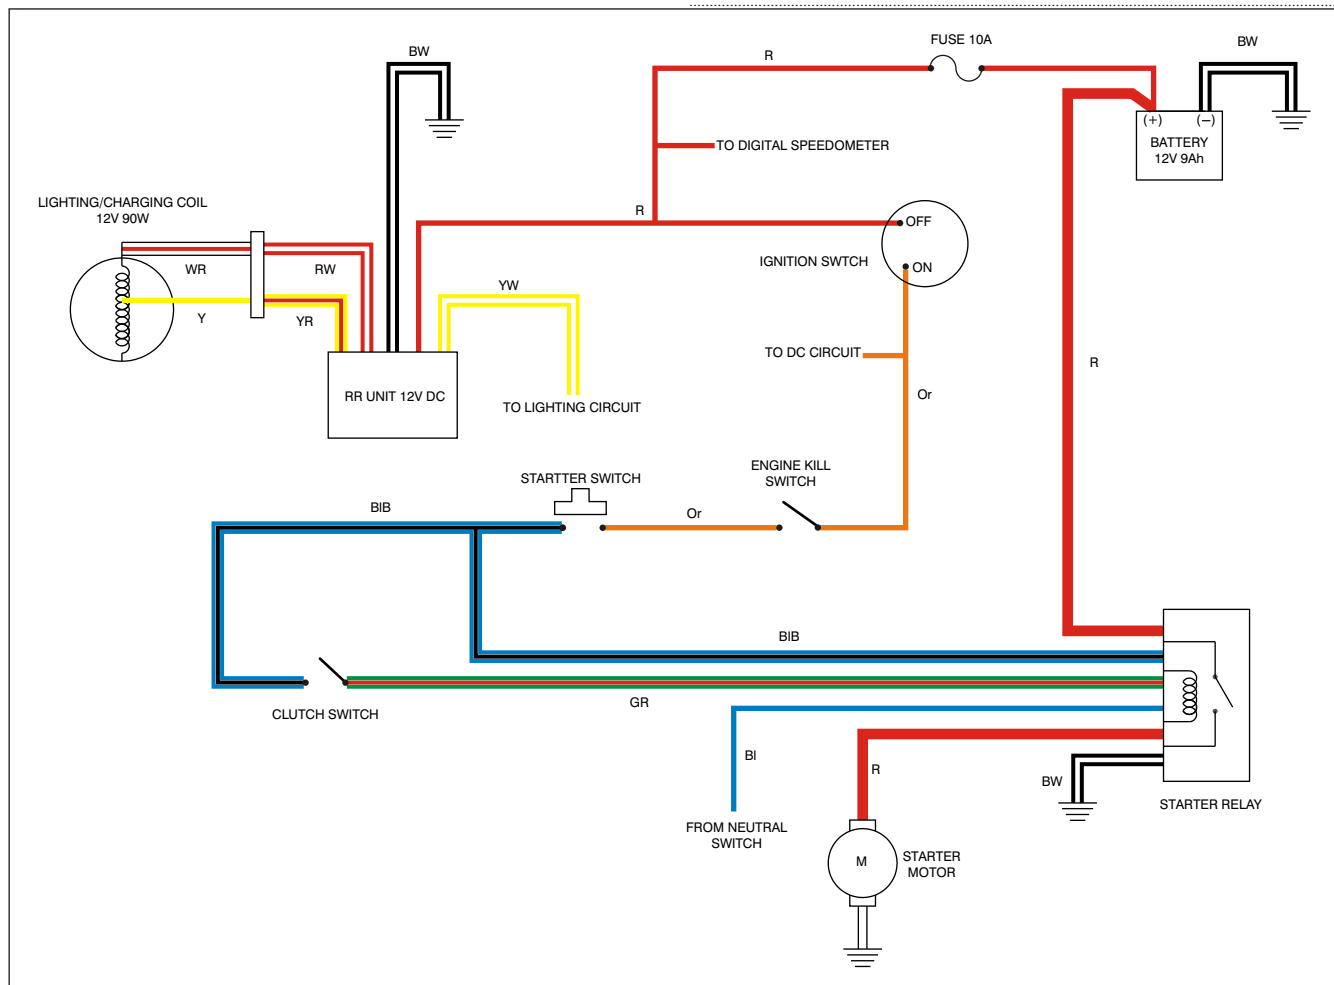

Fig. 5.34
- In TVS Apache RTR, while pressing the starter switch with the transmission in neutral (by applying the clutch incase of the transmission in any gear) and ignition lock, engine kill switches are in 'ON' condition, the current flows through the starter relay which activates the starter relay to complete the starter motor assembly circuit. (Fig. 5.34)
- To start the starter motor assembly at frequent intervals the motor is connected with a mechanical starter relay. The relay contains a electromagnet, energised by the DC supply through starter switch as shown. (Fig. 5.34) The magnetised coil connect the terminal contacts to complete the starter motor circuit.